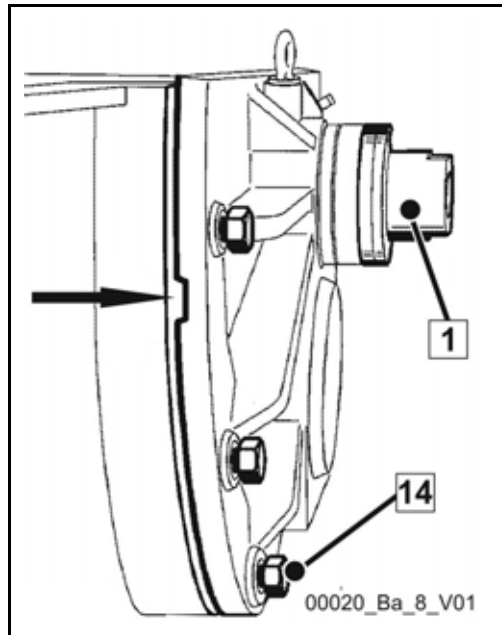

Fig. 314
- Loosen the adjusting nut (1) (**Fig. 314**) by two to three turns.
- Loosen the cover screws (14) evenly by approx. two to three turns to release the pressure spring in the cutting ring.
- Press off the cover of the housing using two assembly levers until it hits the loosened screws; there are press-off points (arrow) (**Fig. 314**) located on the top cover for this purpose.